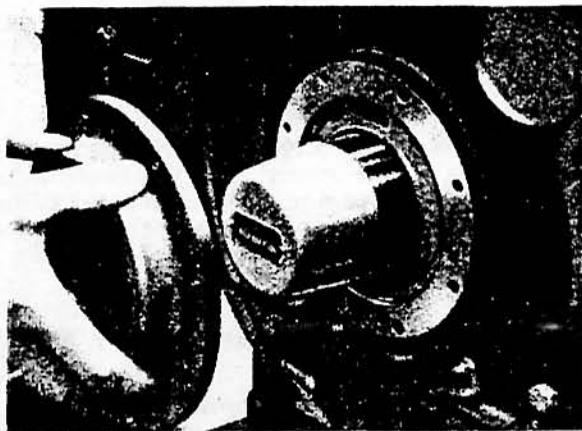

FIG. 149 GUIDING REAR OIL SEAL AND COVER ASSEMBLY ON TO CRANKSHAFT WITH SERVICE TOOL MF105C/1
8. Slide rear oil and cover assembly on to spigot of crankshaft, using Service Tool MF105C/1, well oiled, as guide to prevent damaging the seal. See Figure 149.